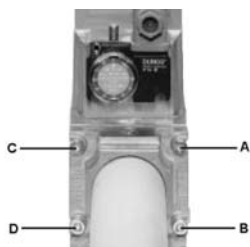

Fig. 15
1. Loosen screws A and B **do not** unscrew (Fig. 15 - Fig. 16).
2. unscrew screws C and D (Fig. 15 - Fig. 16).